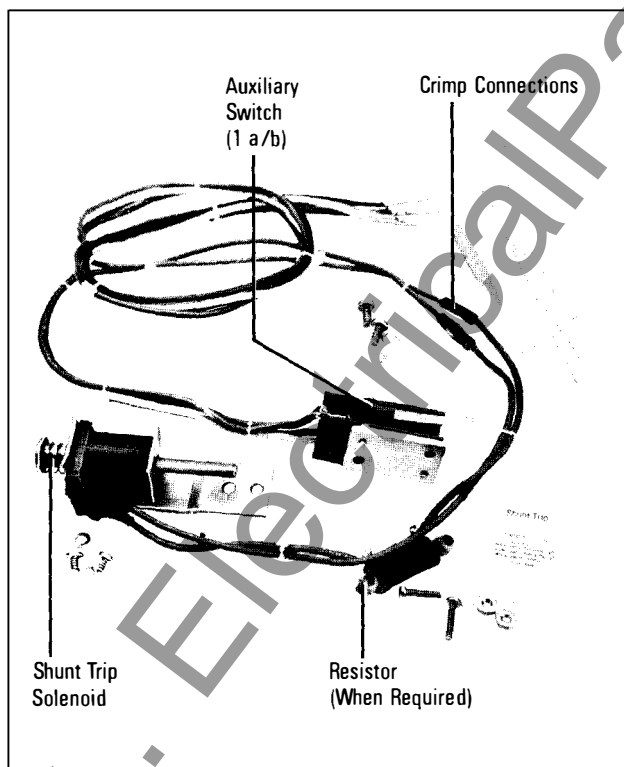
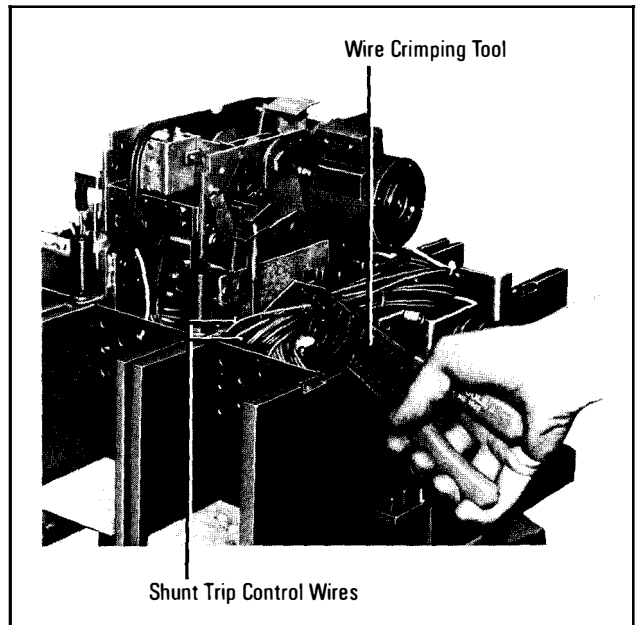

Fig. 1 Shunt Trip Device Accessory Kit
Fig. 6 *Splicing Shunt Trip Control Wires*
Shunt trip device is furnished in kit form for field installation as illustrated in Fig. 1 complete with all installation details including wiring harness and supplementary nameplates. All components are for mounting internally in the center pole as described in this leaflet. Complete ratings and catalog numbers are given in Table 1.
NOTE: THE TWO CRIMP CONNECTIONS SHOWN IN FIG. 1 ARE ACTUALLY SUPPLIED IN KIT FORM IN AN UNCRIMPED FASHION TO FACILITATE THE ROUTING OF THE SHUNT TRIP WIRES UNDER THE MECHANISM FRAME WHEN REQUIRED. CRIMPING WILL BE REQUIRED USING A TOOL^① SIMILAR TO THE ONE SHOWN IN FIG. 6.